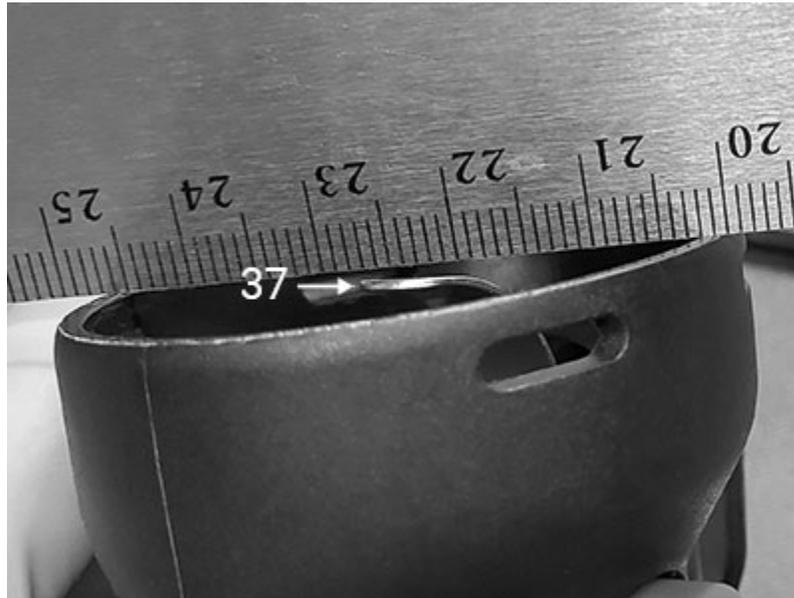

Fig. 52
4. The Lever tip should be 1 - 2 mm below the oval case rim - Fig. 52. If the lever is higher than this, unscrew the nut with a 5.5 mm nut driver until the lever drops to 1 mm below the rim. If the lever is lower than 2 mm below the rim, after confirming that there is some slack in the lever, tighten the nut until it is 1 - 2 mm below the case rim.